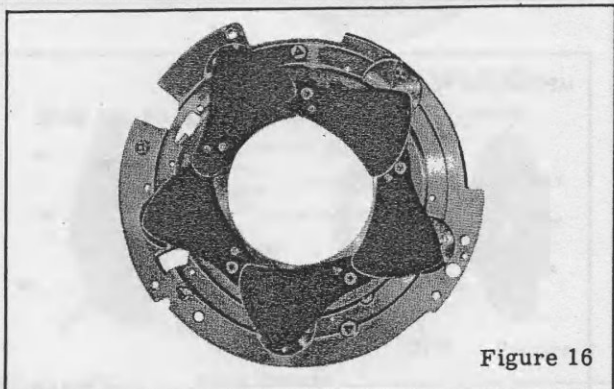

Figure 16
5. **BLADE**, over the blade with double blade bushing and stud. The back of the mechanism plate should appear as shown in figure 16.